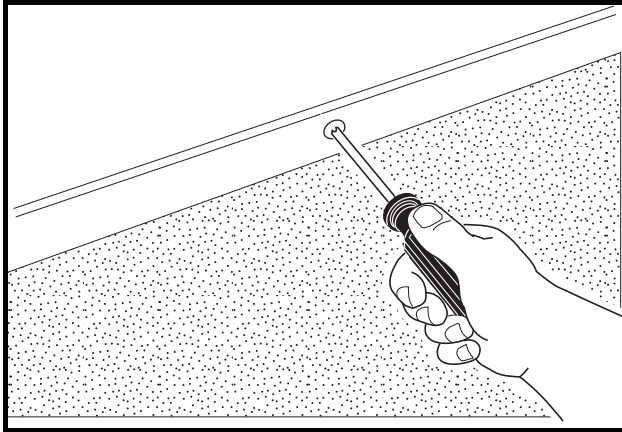

Figure 4-15 Remove Kick-Plate Screws
4. Remove the two screws, nuts and washers located at the bottom edge of the seat support panel (in kick-plate just above the floormat) (**Figure 4-15, Page 4-13**).